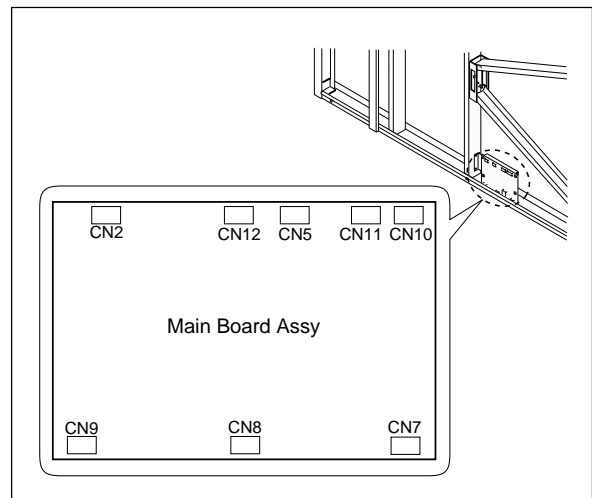

Fig. 3
### 2) Remove the Main Board Assy. (See Figs. 3 and 4.)
1. Disconnect the connectors (CN2, 5, 7~12) connected to the Main Board Assy shown in Fig. 3.